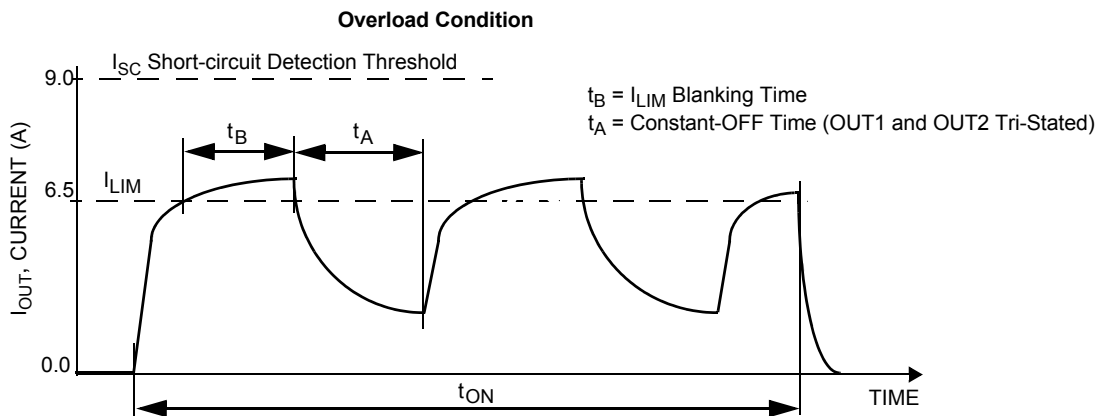

Figure 7. Current limit blanking time and constant-off time
- Load currents ramping up to the current regulation threshold become limited at the I_{LIM} value (see Figure 7). The short-circuit currents possess a di/dt which ramps up to the I_{SCH} or I_{SCL} threshold during the I_{LIM} blanking time, registering as a short-circuit event detection and causing the shutdown circuitry to force the output into an immediate tri-state latch-OFF (see Figure 8). Operation in Current Limit mode may cause junction temperatures to rise. Junction temperatures above $\sim 160\text{ }^\circ\text{C}$ causes the output current limit threshold to "fold back", or decrease, until $\sim 175\text{ }^\circ\text{C}$ is reached, after which the T_{LIM} thermal latch-OFF occurs. Permissible operation within this fold back region is limited to non-repetitive transient events of duration not to exceed 30 seconds (see Figure 9).